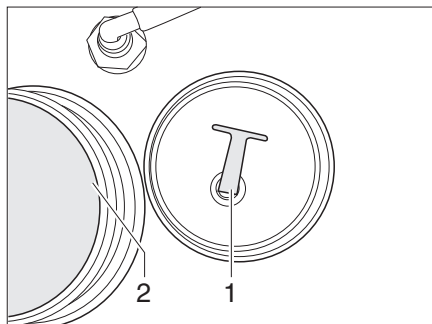

Fig. 336 Stopper
- Screw the stopper (Fig. 336,1) out of the drainage opening (Fig. 336,2). The water drains off.